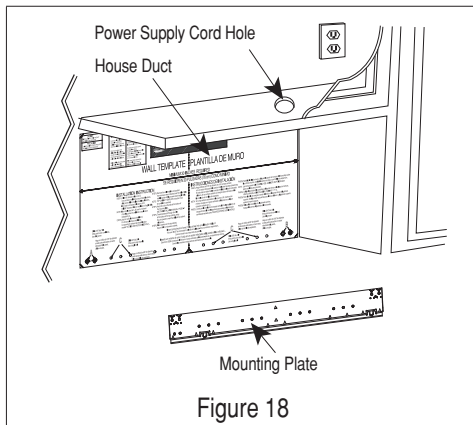

Figure 18
- Draw a vertical line on the wall at the center of the 30 in wide space. See Figure 18.